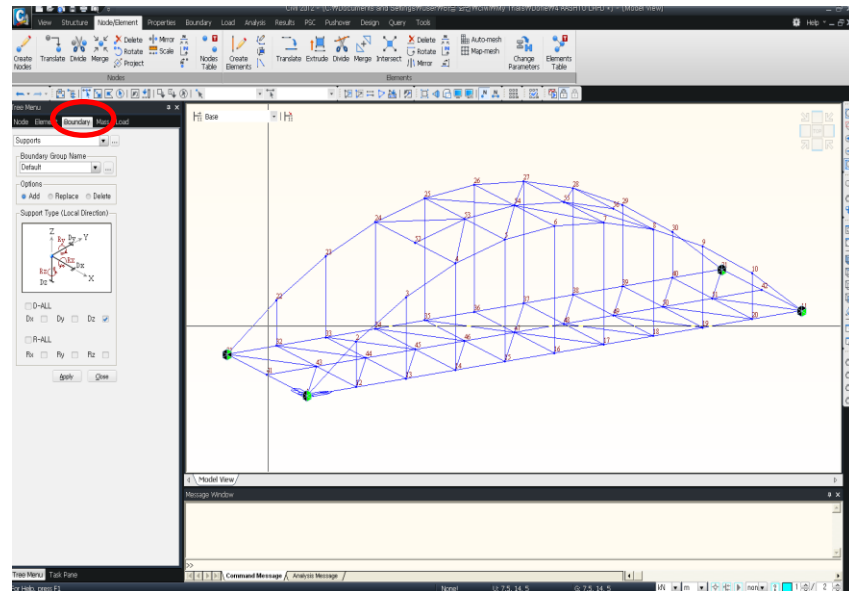

Figure 4.16 Structural Boundary Conditions
2. Select **Boundary** tab as shown in Figure 4.16, and select “**Supports**”.